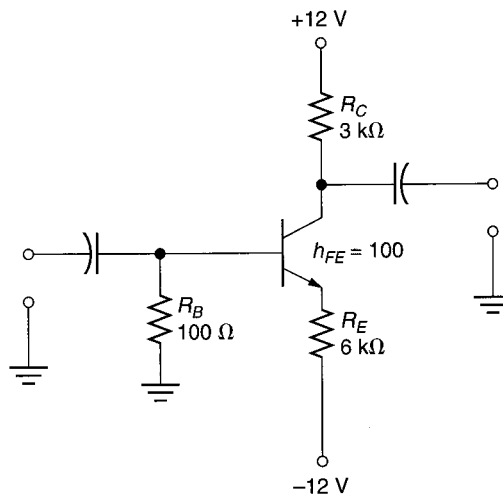

FIGURE 7.38
29. Determine the values of  $I_{CQ}$  and  $V_{CEQ}$  for the circuit shown in Figure 7.38.
30. For the circuit shown in Figure 7.38, *double* the values of  $R_C$  and  $R_E$ . Now, recalculate the output values for the circuit. How do these values compare with those obtained in Problem 29?
31. Calculate the values of  $I_{C(sat)}$  and  $V_{CE(off)}$  for the circuit shown in Figure 7.38. Use the original component values.
32. For the circuit shown in Figure 7.38, *double* the values of  $R_C$  and  $R_E$ . Now, recalculate the values of  $I_{C(sat)}$  and  $V_{CE(off)}$ . How do these values compare with the ones obtained in Problem 31?